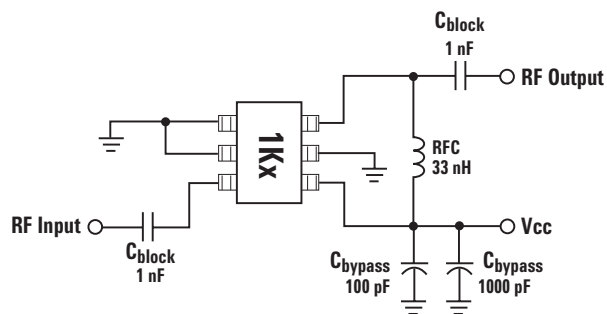

Figure 1. ABA-31563 Production Test Circuit.
1. Measurements taken on 50 Ω test board shown on Figure 1. Excess circuit losses had been de-embedded from actual measurements. Standard deviation and typical data based on at least 500 parts sample size from 2 wafer lots. Future wafers allocated to this product may have nominal values anywhere within the upper and lower spec limits.